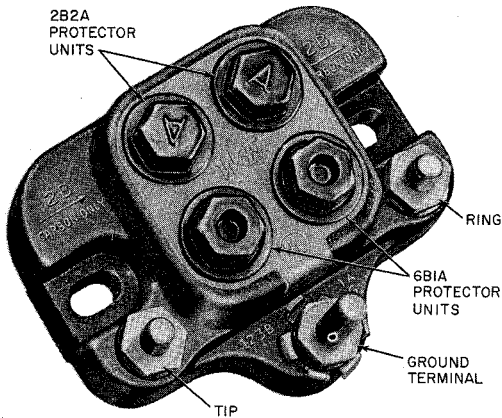
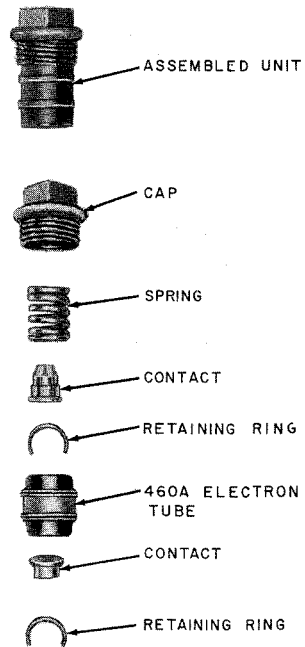

Fig. 3—123B1A Protector
Fig. 4—6B1A Protector Unit
3.04 The **123B1A protector** (Fig. 3) provides protection for one pair of wires and is recommended for use only at stations served by aerial wire (as described in paragraph 3.08). It consists of a nonconductive base containing three binding posts and two 6B1A gas tube protector units (Fig. 4) in parallel with two 2B2A protector units. The 6B1A protector units are not grounded permanently by lightning surges but may be damaged by power currents. Therefore, carbon protector backup is provided to assure fail-safe protection.